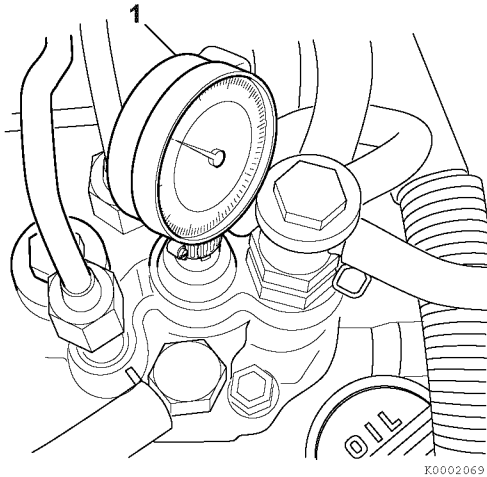

Figure 7-42
- Note the reading on the dial indicator (**Figure 7-42, (1)**). If the reading is less than 2.5 mm (0.098 in.), the fuel injection timing is “retarded”. If the dial indicator reading is greater than 2.5 mm (0.098 in.), the fuel injection timing is “advanced.”